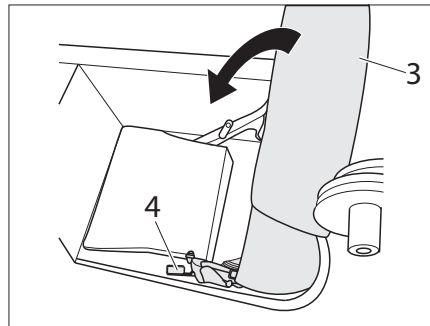

Fig. 213 Move the seat back into the storage box
- Engage lever 2 (Fig. 213,4) and move the seat back (Fig. 213,3) into the storage box.